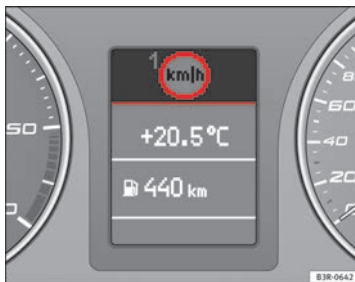

Fig. 57 Display: Speed warning function
exceeded by about 10 km/h (6 mph). A warning symbol will also appear in the display ⇒ Fig. 57.
The warning symbol ⊖ for speed limit warning 1 ⇒ Fig. 57 will appear in the display if you exceed the pre-set speed. It goes out again if the speed is reduced below the set speed limit.
- Press the **CHECK** button and hold it down until the symbol ⇒ Fig. 57 appears.